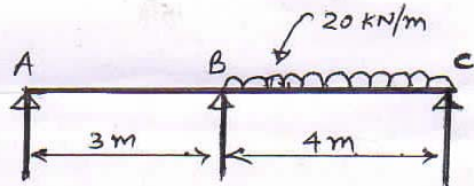

Fig. 6 Q. 3(c)
- (c) A continuous beam ABC is as shown in figure.6. Find support moments and draw B.M. diagram. Use Theorem of three moments. 04